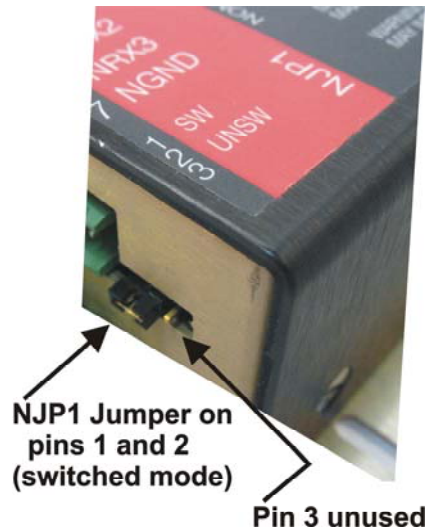

Figure 2-2. Setting Jumper NJP1
NJP1 Jumper Operation	If you didn't install a jumper, or if you installed a jumper between pins 1 and 2 (SW), the non-hazardous interface operates in switched mode. If you install a jumper between pins 2 and 3 (UNSW), the non-hazardous interface operates in unswitched mode. (Figure 2-2 shows the jumper in switched mode.)
To configure the non-hazardous interface for switched mode, place the supplied shorting jumper in the NJP1 position marked SW (short NJP1 pins 1 and 2 as shown in *Figure 2-2*). The non-hazardous interface is also in switched mode by default if you don't install a jumper at NJP1. When you configure the non-hazardous interface for switched mode, the NTX outputs are in a high-impedance state when HRX3 is low (or negative), and the NTX outputs follow the HRX inputs normally when HRX3 is high (positive).
To configure the non-hazardous interface for unswitched mode, place the supplied shorting jumper in the position marked UNSW (short NJP1 pins 2 and 3). This is the **opposite** jumper position of that shown in *Figure 2-2*. In unswitched mode, the NTX outputs are always turned on and they always follow the corresponding HRX inputs.